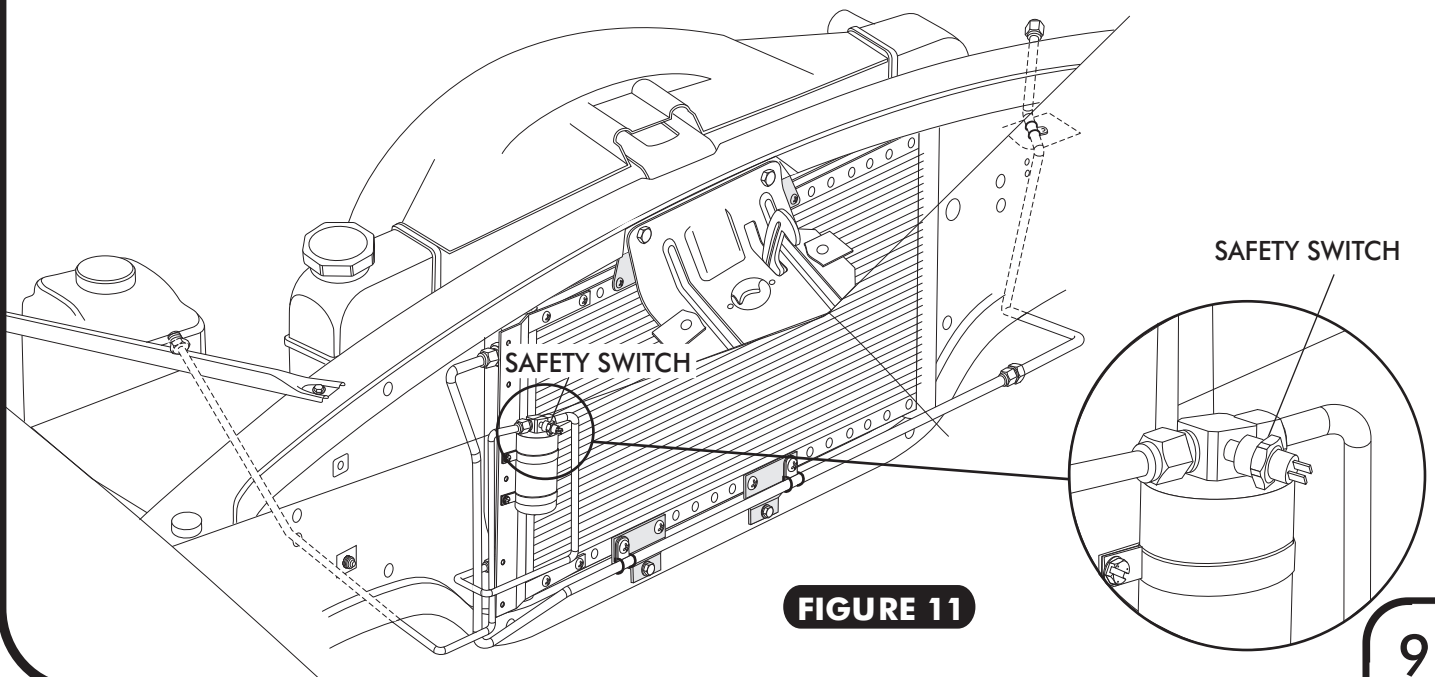

FIGURE 11
- INSTALL BINARY SWITCH ON DRIER AS SHOWN IN FIGURE 11 BELOW.